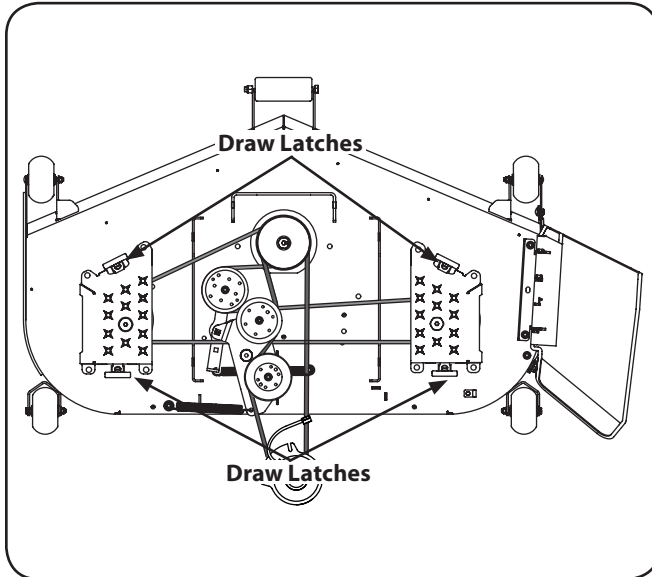
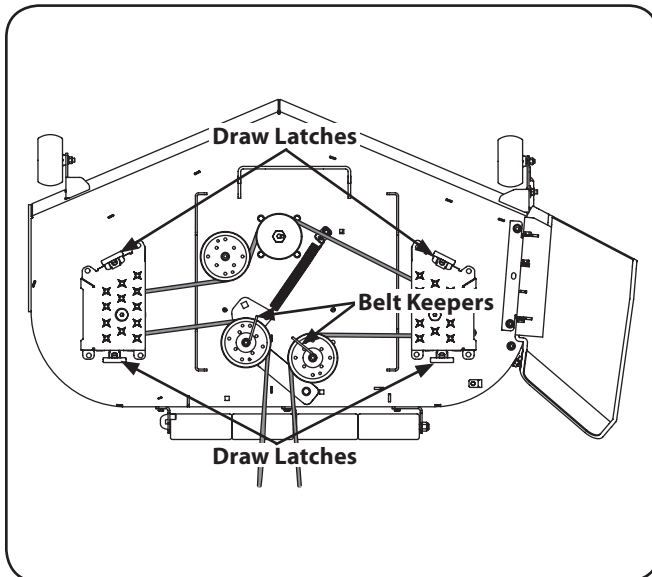

Figure 7-11
Figure 7-12
2. Pull the four draw latches up and away from the deck covers to unlatch and remove both covers. See Fig. 7-11 for the Z-Force S60 and Fig. 7-12 for the Z-Force S48.